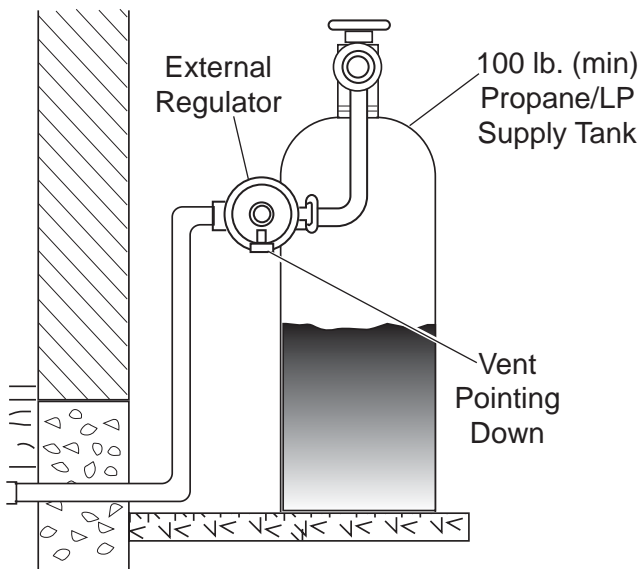

Figure 33 - External Regulator with Vent Pointing Down (Propane/LP Only)
4. Using tin snips, cut the support box from the top corners down to the roof line and fold the resulting flaps over the roof sheathing. See Figure 33. Apply a bead of non-hardening, mastic around the top edges of the support box to make a seal between the box and the roof. Nail in place with roofing nails. Remove any combustible material that might be inside the support box.
For propane/LP connections only, the installer must supply an external regulator. The external regulator will reduce incoming gas pressure. You must reduce incoming gas pressure to between 11 and 13 inches of water. If you do not reduce incoming gas pressure, burner system regulator damage could occur. Install external regulator with the vent pointing down as shown in *Figure 33*. Pointing the vent down protects it from freezing rain or sleet.